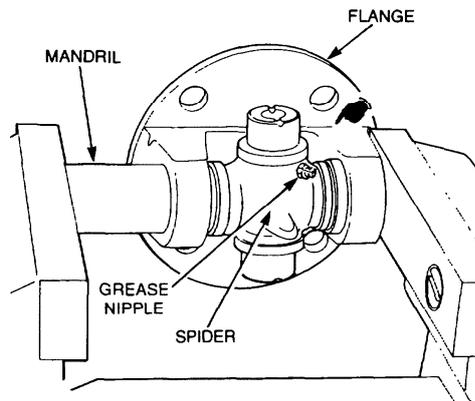

Figure 91 Bearing Cup Installation
- f. Using a vice, carefully press both cups into place, taking care not to dislodge the needle rollers as the spider engages the cup (Figure 91).